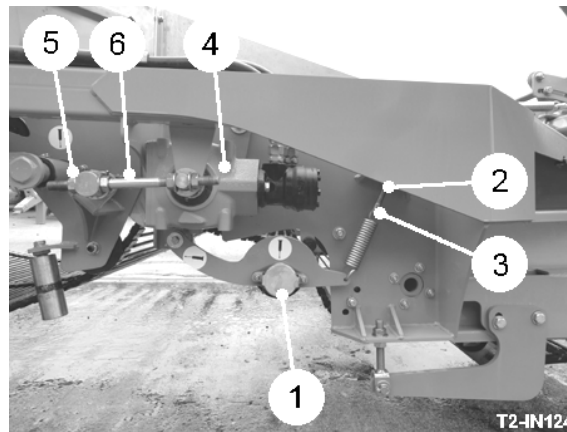

Fig 8
The standard specification machine is fitted with a 1630mm wide, 36mm pitch digger web. A 1500 mm digger web is available as an option. Also, should an alternative pitch web be required to suit particular crop and soil conditions, this will be a special requirement and will need to be discussed with Standen Engineering Limited. The spring-loaded tension rollers (item 1, fig. 8) maintain the drive on the return side of the web. To tension the web, loosen the locknuts (item 2, fig. 8) and reposition the spring adjuster (item 3, fig. 8). Ensure both sides are adjusted equally.
The digger web is driven by the motor gearbox unit (Item 4, fig. 8). The  button starts/stops the digger web and the speed is set on the touch-screen.
The drop height from the digger web to the sieving web can be adjusted using the 'Web Split' button on the slave box. The gap between the two webs can be manually set according to the crop size, and the separation required. The gap is adjusted by releasing the locknuts (item 5, fig. 8)) and moving the adjuster (item 6, fig. 8) until the required gap is obtained. Ensure both sides are adjusted evenly.